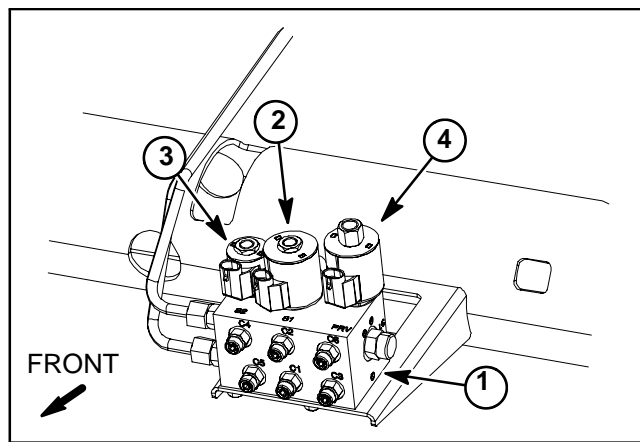

Figure 52
4. Gain access to hydraulic lift control manifold by removing the operator floor plate. The lift control manifold is attached to a frame bracket under the floor plate (Fig. 52).